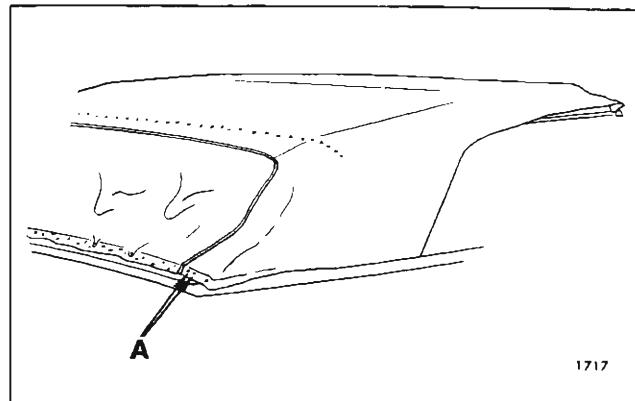

Fig. 2-I-21—Tacking Top Material
38. Using previously marked lines (ends of trim stick) as locating reference, tack top material to rear and rear quarter trim sticks. "A" in Figure 2I21 shows top material installed to rear trim stick at inboard edge.